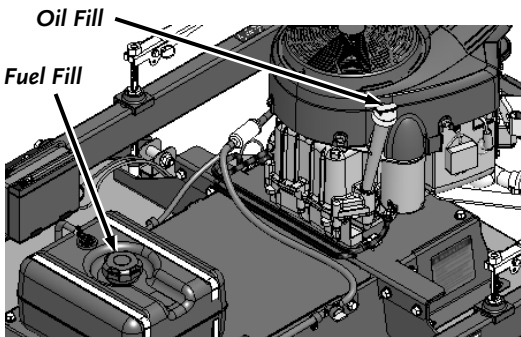

Figure 8a
1. Place the machine on a level surface and remove the Oil Fill Cap/Dipstick (**Figure 8a or 8b**).